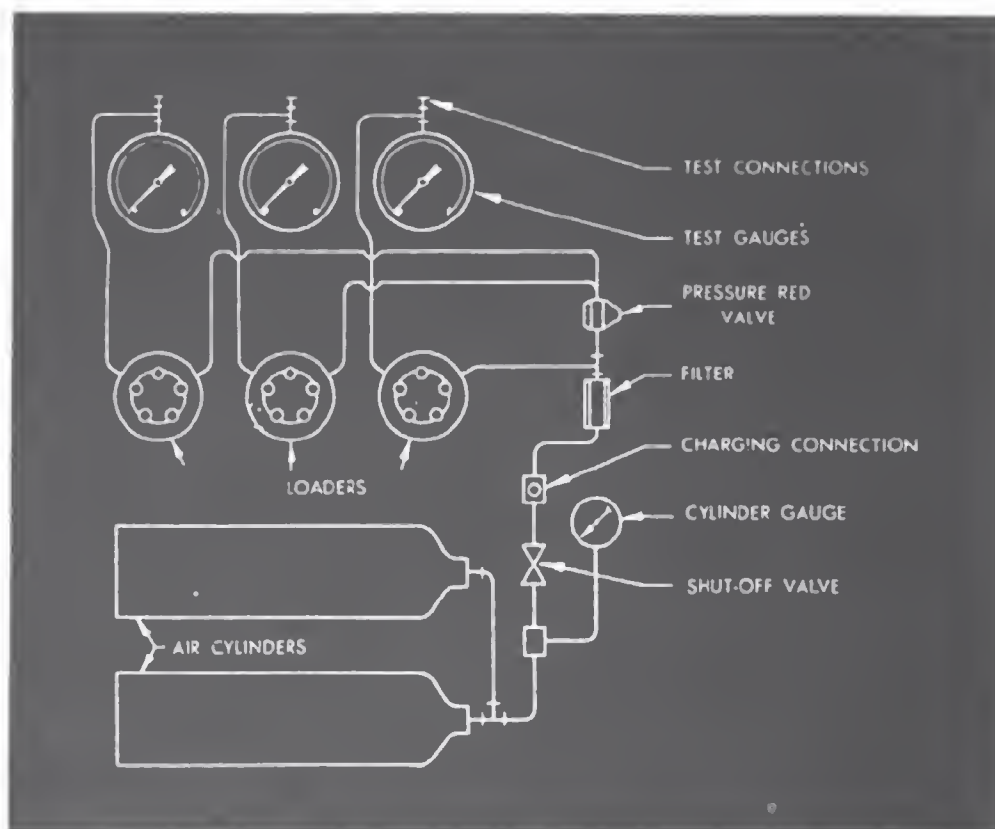

Figure 256. — Connection diagram — testing three pressure gages with comparator.
Each of the range test units consists of a manually operated loader (pressure reducing valve) directly connected to a laboratory test gage, which is accurate to within one-fourth of 1 percent of the maximum reading to which the scale is graduated. The necessary testing pressures are supplied from built-in high-capacity rechargeable gas cylinders. (See figure 256.) Although the comparator is primarily designed as a portable gage tester, it can be permanently mounted.
24. The principle parts of the pneumatic gage comparator are: the loaders, the air cylinders, the test pressure shut off valve, the test connections, the air cylinder gage, the pressure reducing valve and the filter. Make a drawing of the diagram shown in figure 256 and label these parts. (Do not write in the book.)